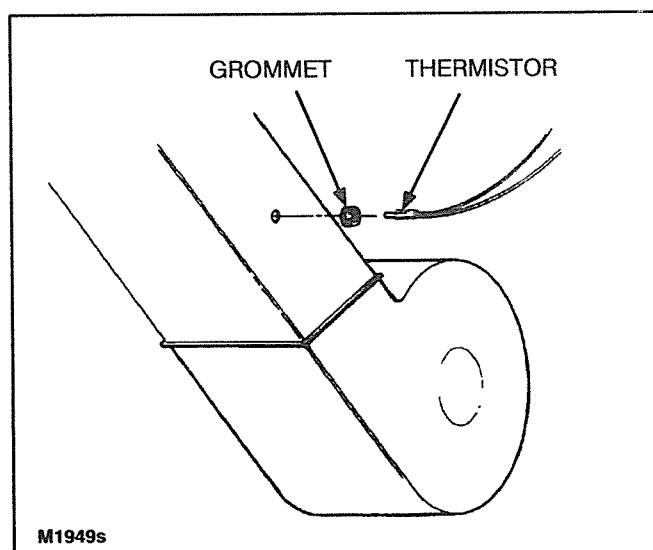

FIGURE 7-3. THERMISTOR MOUNTING
1. Drill a 31/64-inch diameter hole in the heat duct 6 to 24 inches from the fan outlet (Figure 7-3).